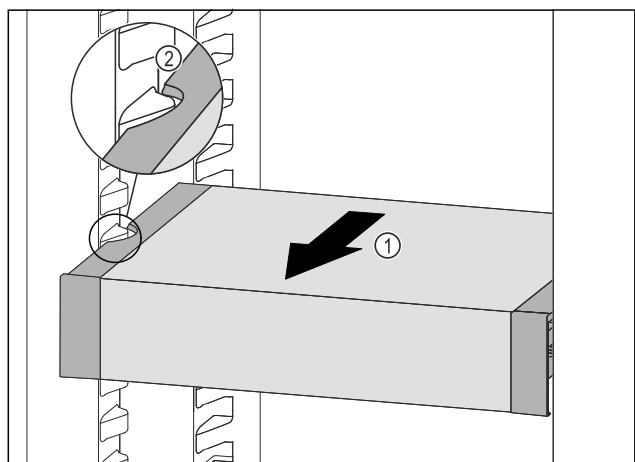

Fig. 101
- ▶ Pull VarioSafe forwards *Fig. 101 (1)* until the recesses in the side of the VarioSafe are at the level of the support rib in the fridge section. *Fig. 101 (2)*